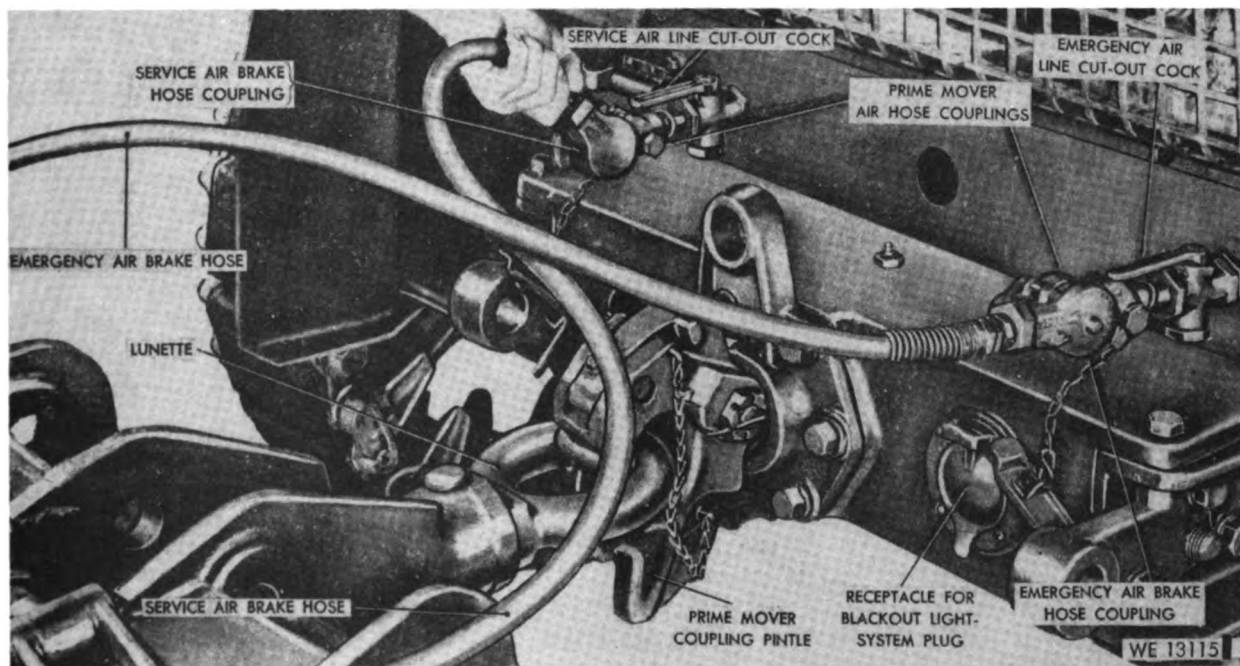

Figure 36. Uncoupling air brake hose from prime mover.
air line cutout cocks on the tail end of the prime mover (fig. 36). Uncouple the service and emergency air brake hose couplings from the prime mover air hose coupling.
- (4) Remove cover and unstrap the trail jack assembly (M123A1 howitzer) (fig. 30) from the left trail and lift the trails with the jack (fig. 39); disconnect the lunette (fig. 36) from the prime mover. To remove howitzer M114 or M114A1 from prime mover, three men will lift each of the trails by the trail handles
(fig. 2), disconnect the lunette from the prime mover coupling pintle (fig. 36), and lower the trails to the ground. Unload the primer mover and move it from the vicinity of the weapon.